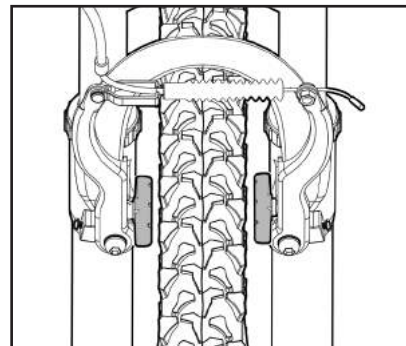
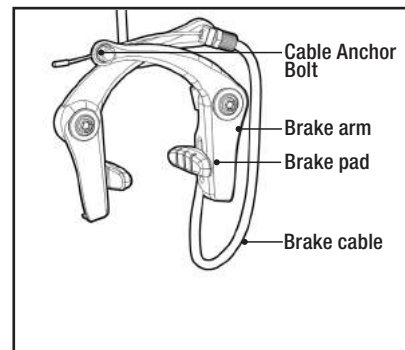

Figure 63
Figure 64
- Ensure that the wheel is properly centered within the dropouts and is not out of true (see Figure 63).
- Using (C) a 4, 5, or 6 mm Allen wrench adjust the brake pad bolts so the brake pads are in line with the curve of the wheel, striking the upper edge of the braking surface, but not the tire. Tighten the brake pad bolts once they are positioned correctly.
- Once the brake pads are properly positioned, loosen the cable anchor nut on the Brake Arm (see Figure 64). Firmly squeeze the brake pads against the rim of the tire, pull the cable taut, and re tighten the cable anchor nut using either (C) a 4, 5, or 6 mm Allen Wrench or a pair of (E) Standard Slip Joint Pliers.)
- If your brake is not centered, or the pads are not contacting the rim at the same time, loosen the mounting nut holding the brake to the fork (front) or the frame (rear) (see Figure 64). Squeeze the brake lever firmly, and tighten the brake nut while continuing to squeeze the brake lever. Squeeze the brake lever several times to check to see if the brakes are centered (see Figure 63).